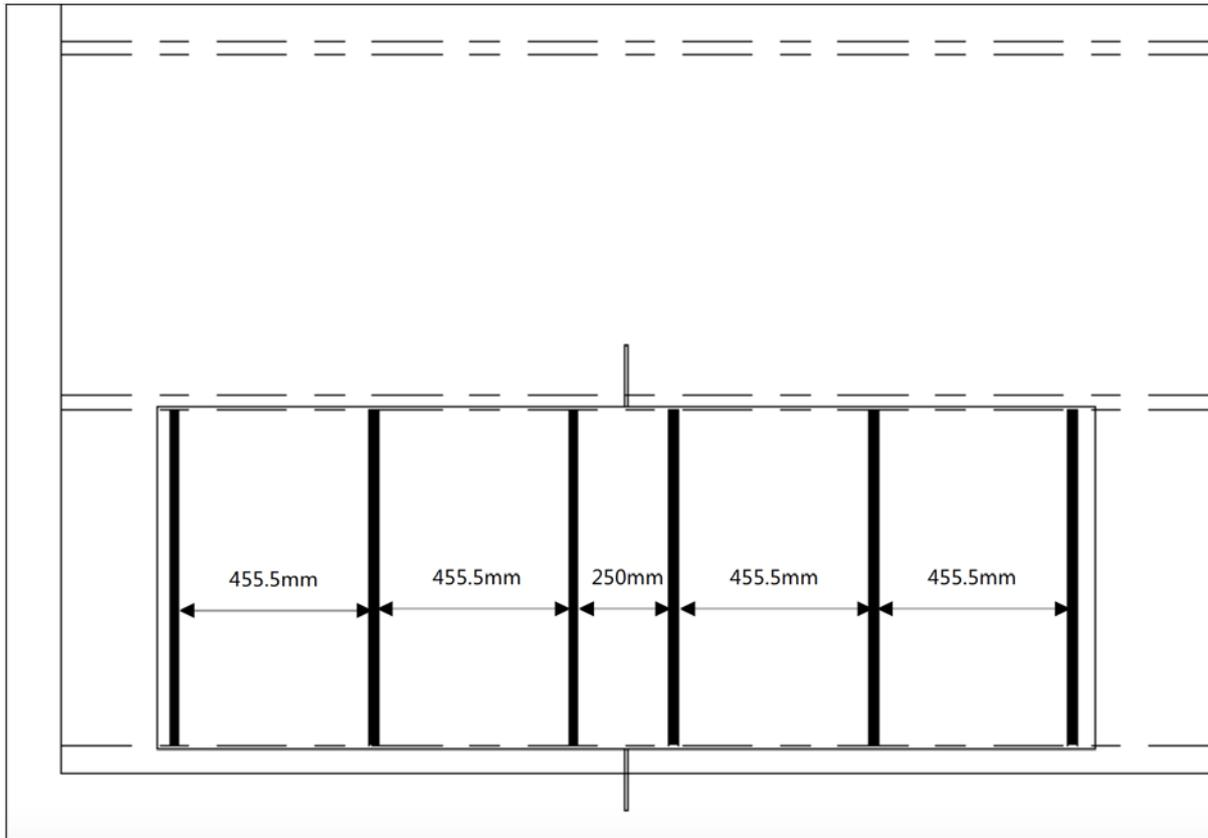

Figure 9
① Galaxy products are supported on the flat roof by support tubes, using structural adhesive which needs to meet the requirements for adhesive strength and pass reliability test. The support tubes are glued on both sides, respectively bonded to the base of the flat roof and the back of the product. The spacing is as follows (Figure 9). The distance between two strips of structural adhesive should not be greater than 500mm.